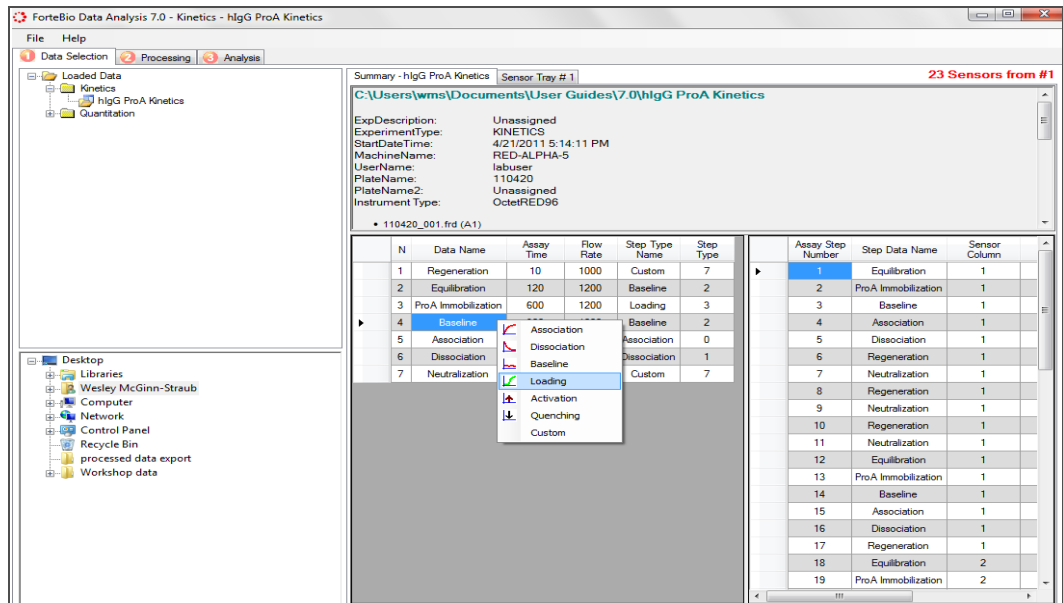

Figure 5-3: Changing a Step Type
- Optional. If any step types have been incorrectly assigned in the Octet System Data Acquisition software, change them before beginning analysis. To do so, right-click the step and select the correct step type from the shortcut menu (Figure 5-3).